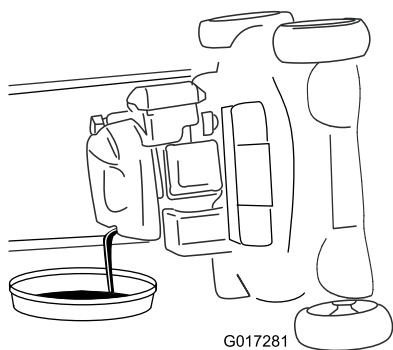

Figure 32
4. Tip the machine onto its side (so that the air filter is up) to drain the used oil from the oil-fill tube (Figure 32).